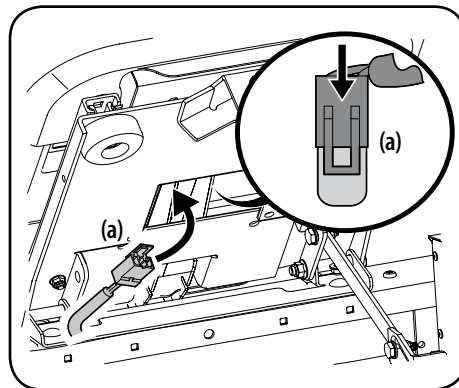

Figure 2-8
4. Insert the wiring harness (a) into the bottom of the seat as shown in Figure 2-8.